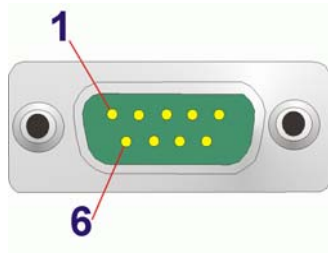

Figure 3-26: RS-232/422/485 Serial Port
- CN Pinouts:** See **Table 3-4** and **Figure 3-26**